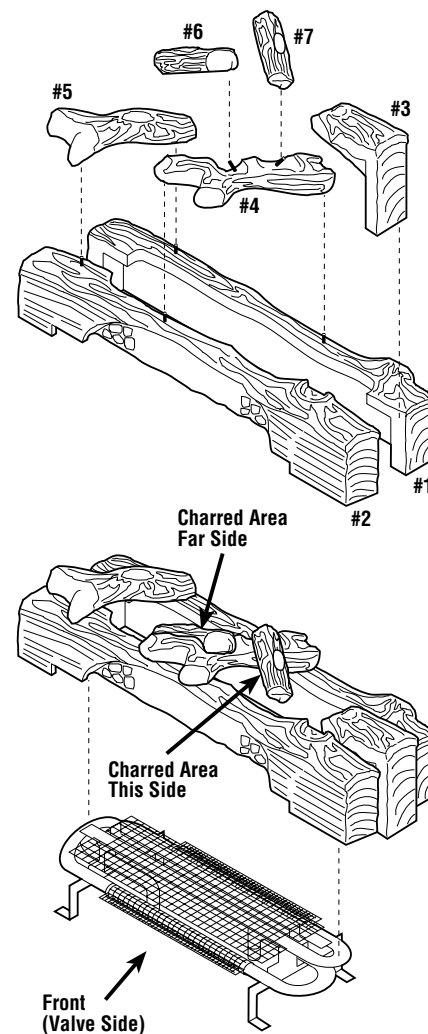

Figure 15
**Step 9.** The heater includes a set of ceramic fiber logs. The logs are assembled as shown in Figure 15. Handle these logs with great care. The logs can be easily damaged, but when handled properly they can provide years of performance and enjoyment.
Place the large center fiber log segment #3 between the two (2) lower logs #'s 1 and 2 in the manner illustrated (Figures 15 & 16A). The flames should not impinge on the logs.
The installation of the logs and twigs, should be complete and resemble Figures 15, 16 and 19.